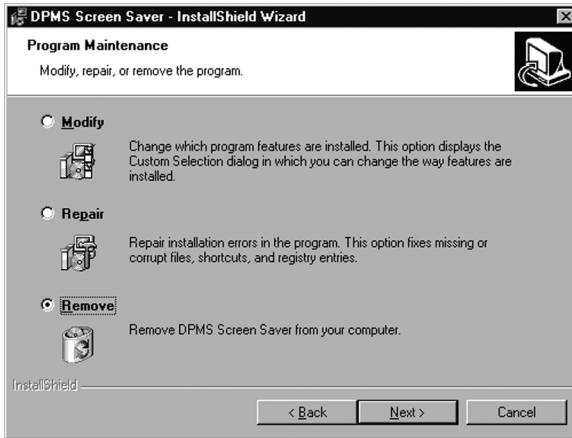

Figure 27
4. Click **“Remove”** on the Remove Program Screen of the Wizard (figure 27 below).